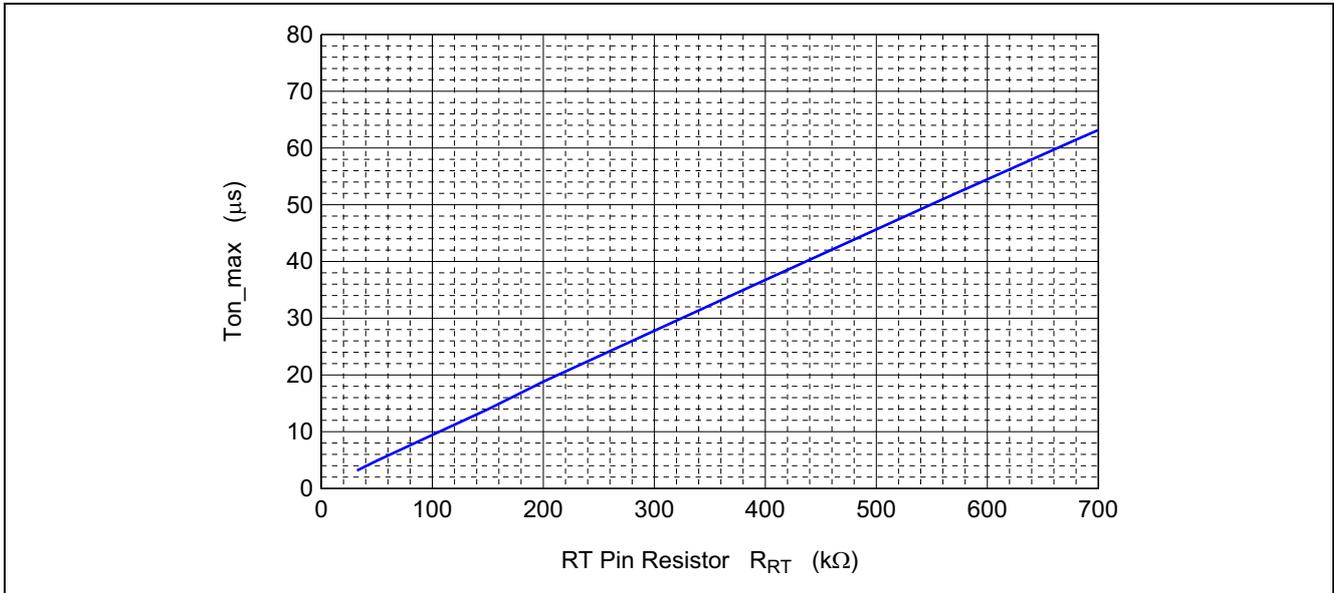

Figure 11 RT Pin Resistor (R_{RT}) vs. Ton_max
The maximum ON time (Ton_max) in which an output is possible is adjusted by resistance of RT pin (R_RT). As shown in figure 11, please select the R_RT value which can be achieved over the calculated Ton_need by Equation (7).